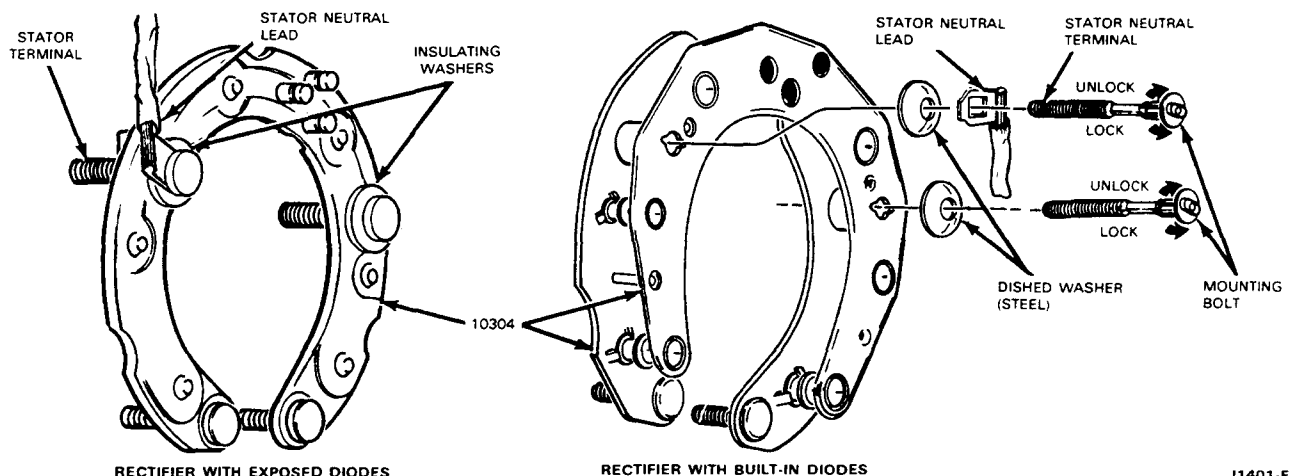
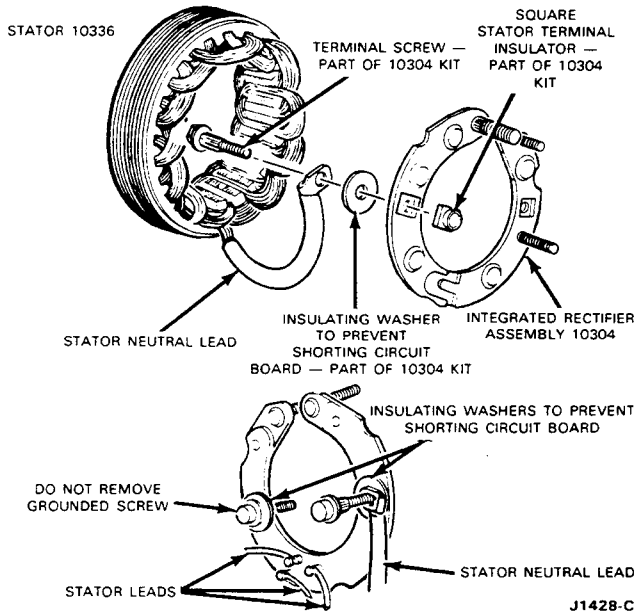

FIG. 16 Rectifier Assembly
FIG. 17 Stator Terminal Installation — Integral Rectifier Circuit Board
8. Original production alternators will have one of three types of rectifier assembly circuit boards (Fig. 16); one has the circuit board spaced away from the diode plates with the diodes exposed. Another type is a single circuit board with built-in diodes. The third type circuit board has built-in diodes with an additional booster diode plate containing two diodes. This circuit board is used only in the 61-ampere alternator.
- If the alternator rectifier has an exposed board, remove the screws from the rectifier by rotating the bolt heads 1/4 turn clockwise to unlock them and then remove the screws (Fig. 16). Push the stator terminal straight out on a rectifier with the diodes built into the circuit board (Fig. 16). Avoid turning the screw while removing, to make certain that the straight knurl will engage the insulators when installing. Do not remove the grounded screw (Fig. 17).
10. For a rectifier with the diodes exposed, insert the special screws through the wire lug, dished washers and circuit board (Fig. 16). Turn them 1/4 turn counterclockwise to lock them. For single circuit boards with built-in diodes, insert the screws straight through the wire lug, insulating washer and rectifier into the insulator. (Fig. 16).
The dished washers are to be used only on the circuit board with exposed diodes (Fig. 16). If they are used on the single circuit board, a short circuit will occur. A flat insulating washer is to be used between the stator terminal and the board, when a single circuit board is used (Fig. 17).